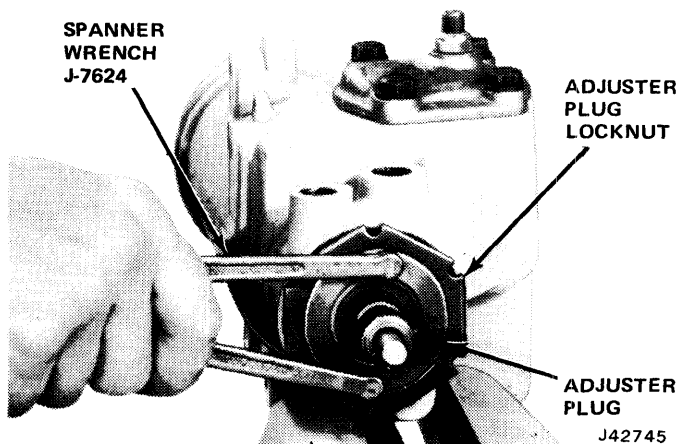

Fig. 11-72 Removing Adjuster Plug
(16) Remove adjuster plug locknut using brass drift.
(17) Remove adjuster plug using Tool J-7624 (fig. 11-72).
(18) Remove valve body from housing. Grasp stub shaft and pull upward and outward to remove.
(19) Remove wormshaft lower thrust bearing and races from upper end of housing if not removed previously.